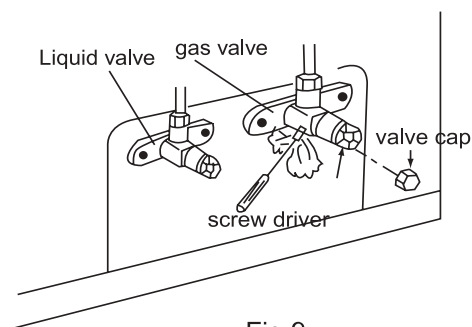

Fig.9
- 8.Open the liquid valve and gas valve entirely (shown in Fig.9).